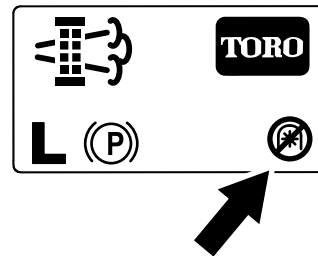

Figure 21
**Note:** The Home screen displays the PTO disabled Icon (Figure 21).
**Note:** The Home screen displays the PTO disabled icon; refer to Figure 21 in Parked Regeneration Messages \(page 9\).